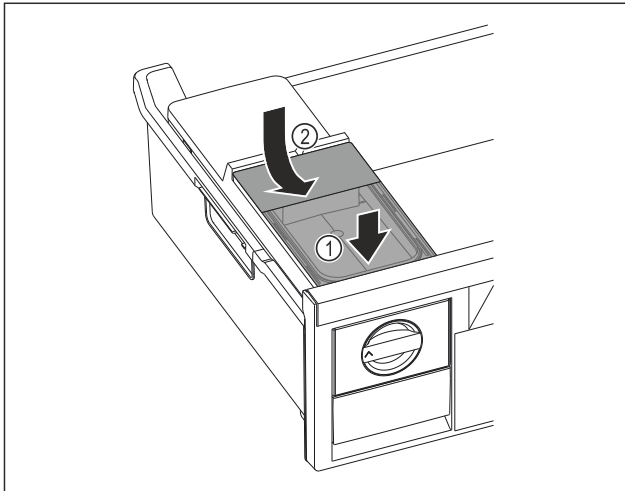

Fig. 150
- ▶ Position the water tank at the front. Fig. 150 (1)
- ▶ Lower the water tank at the rear. Fig. 150 (2)